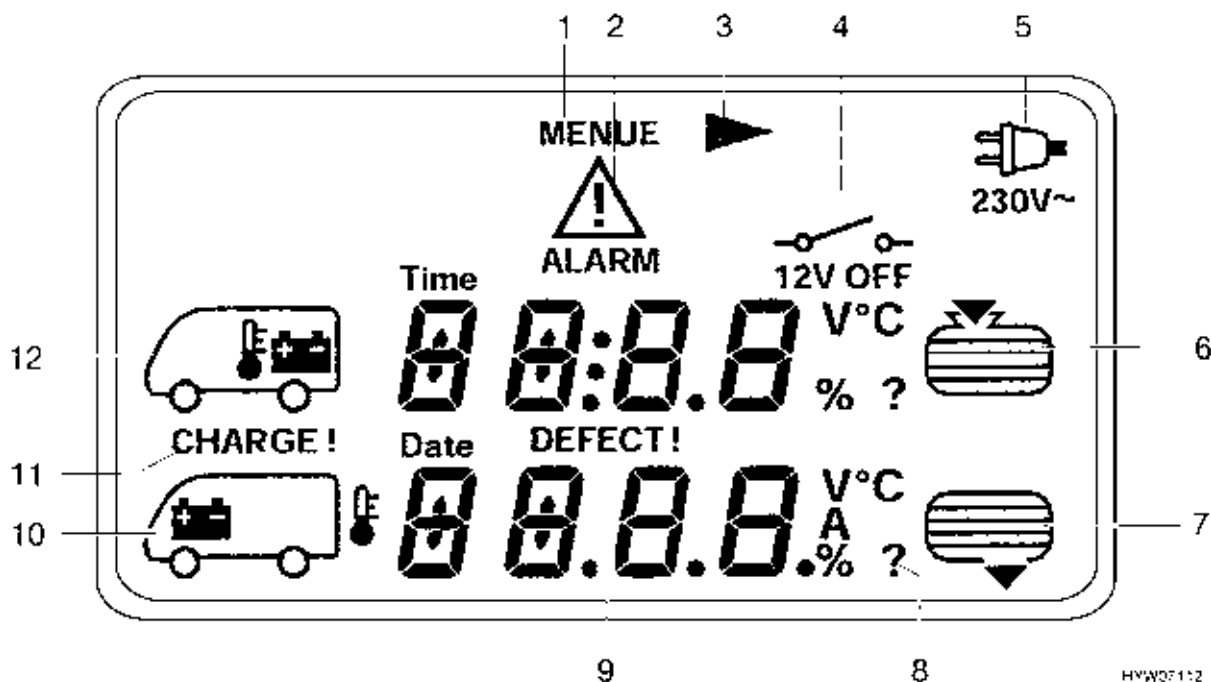

Fig. 109 Symbol diagram on the LCD display
- ▷ The arrow ► (Fig. 109,3) in the LCD display indicates that the selected menu consists of several pages.